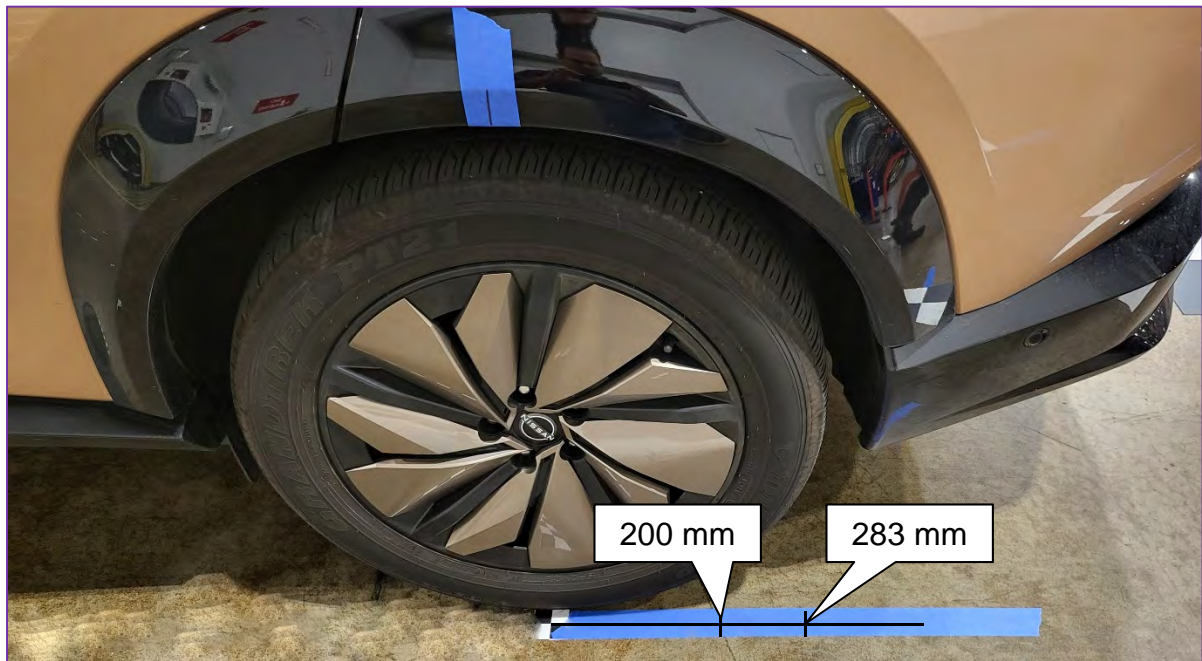

Figure 101
66. Measure 200 mm and 283 mm from the center point of the driver (LH) side rear wheel, and then make a mark at each measurement, as shown in Figure 101.